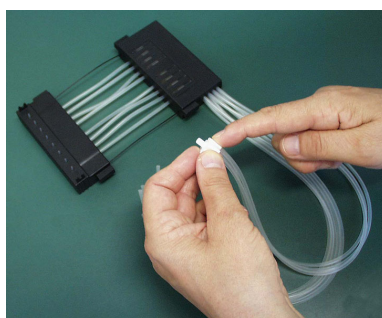

Figure 5-48. Inserting the tubes into the PEEK tubing weight
19. Insert the eight tubes into the PEEK tubing weight either at this stage or earlier (Figure 5-48). The new tubing set has now been successfully fitted.